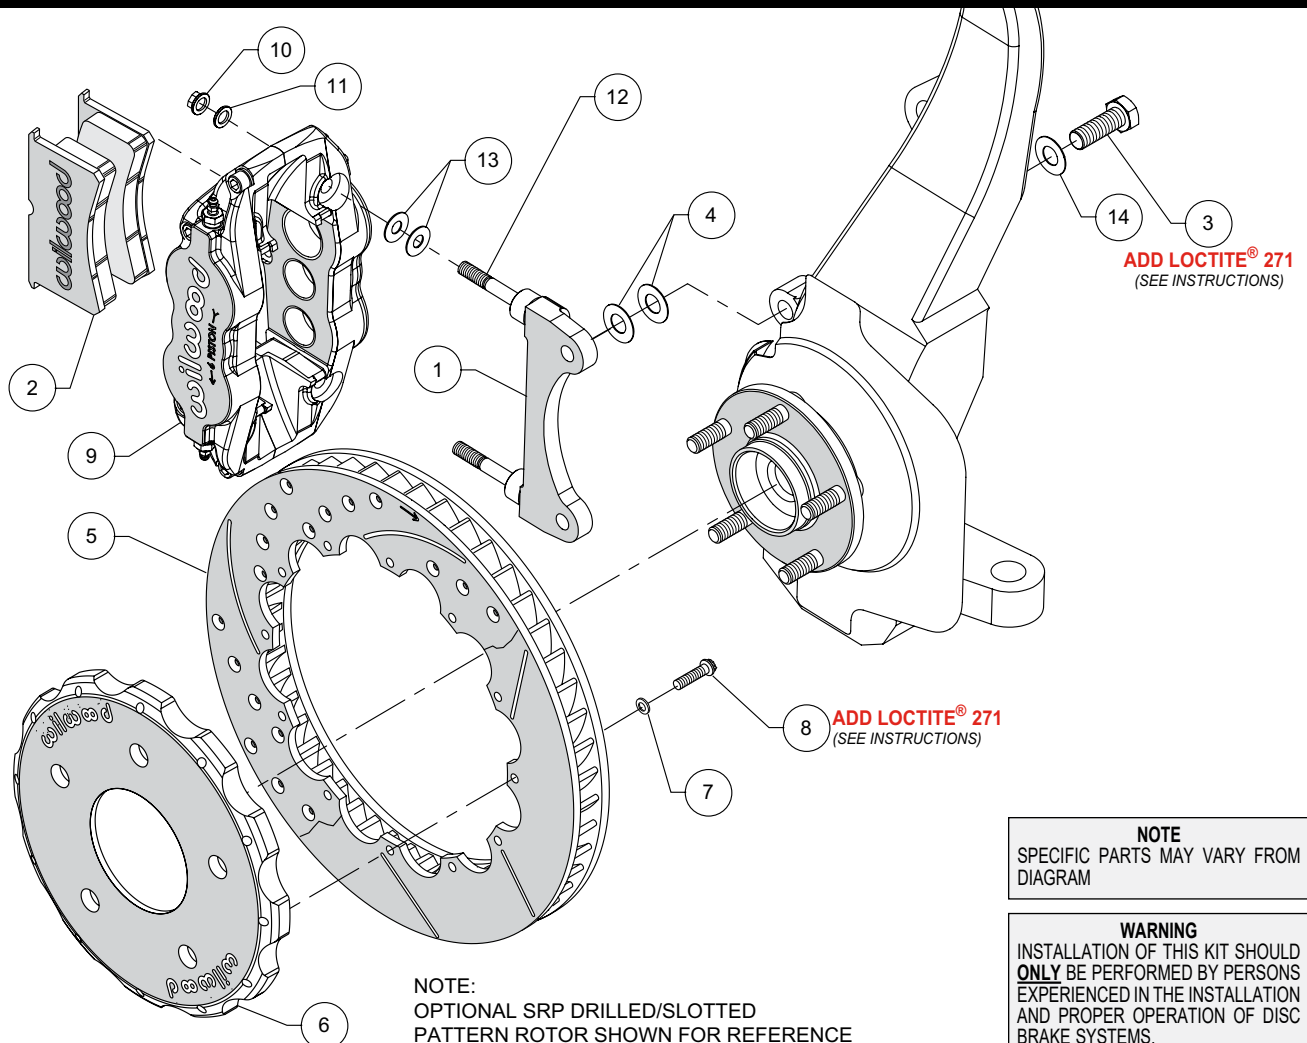
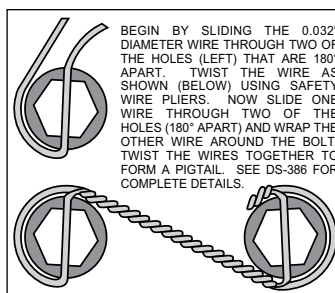

Figure 1. Typical Installation Configuration
Figure 4. Safety Wire Diagram
Assembly Instructions (numbers in parenthesis refer to the parts list and Figure 1 on the preceding pages):
•The caliper mount bracket (1) should initially be installed with clean, dry threads on the mounting bolts. Orient the bracket as shown in Figure 1 and Photo 1, and install using washer (14) and bolts (3). Initially place two additional shims (4) on each bolt between the bracket and upright, Figure 1. Temporarily tighten the mounting bolts. **NOTE: The bracket must fit squarely against the mount bosses on the upright.** Inspect for interference from casting irregularities, machining ridges, burrs, etc. Later, after the caliper alignment has been checked, the mount bolts will be secured using red *Loctite*® 271.
•Orient the rotor (5) and the hat (6) as shown in Figure 1 and Photo 2. Attach rotor to hat using bolts (8) and washers (7). Apply red *Loctite*® 271 to the bolt threads and torque to 155 **in-lb** using a criss-cross pattern. For an added measure of security, the bolts may be safety wired using standard 0.032 inch diameter stainless steel safety wire as shown in Figure 4. Please refer to Wilwood's data sheet DS-386 (available at www.wilwood.com/Pdf/DataSheets/ds386.pdf) for complete safety wire installation instructions.
•**NOTE: This kit contains distinct right and left hand calipers that must be mounted in a specific direction, as described below.** Initially place two .035" thick shims (13) on each stud (12) as shown in Figure 1 and Photo 3. Mount the caliper (9) onto the bracket (1) using lock nuts (10) and washers (11), Figure 1 and Photo 4. Ensure that the caliper is mounted so that the largest pistons are at the rotor exit end of the caliper, in relation to the direction of rotor rotation. Temporarily tighten the lock nuts and view the rotor through the top opening of the caliper. The rotor should be centered in the caliper, Photo 5. If not, adjust by adding or subtracting shims (4) between the bracket and the upright. Always use the same amount of shims on each of the two mounting bolts. Once the caliper alignment is correct, remove the bracket mounting bolts one at a time, apply red *Loctite*® 271 to the threads, and torque to 75 ft-lb.